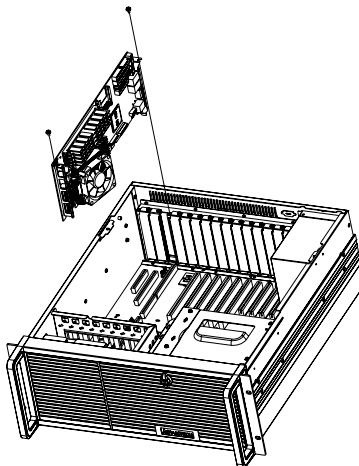

Figure 2.5: Installing a full-length CPU card
3. Insert the CPU card or add-on card vertically into the proper slot (See Figure 2.5). For full-length cards, please make sure that the card bracket has been inserted properly and the other edge of the card has been inserted into the plastic guiding fillister. Fasten the card with the screw on top of the I/O bracket.